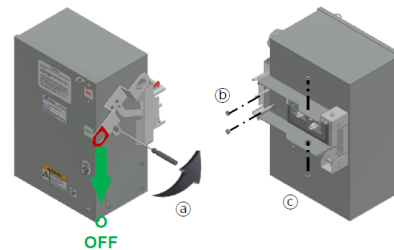

Figure 20. Fusible Plug-in unit Pre-installation
2. Place the operating handle on OFF (O) position. (Figure 20, 21)
3. Make sure that the bolt-lock of the handle is locked. (Figure 20, 21 a)
4. Remove two nuts on the guide pins. (Figure 20, 21 b)
5. Remove two fixed bolts. (Figure 20, c)